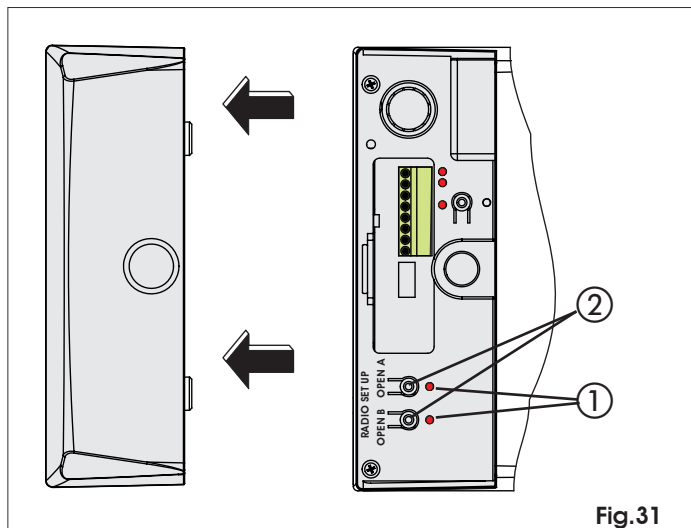

Fig.31
- 2) To respectively memory store total or partial opening, press the OPEN A or OPEN B push-button for one second (Fig. 31 ref. ②)
- 3) The relevant LED (Fig. 31 ref ①), begins to flash for 5 sec.
- 4) To respectively memory store total or partial opening, press the OPEN A or OPEN B push-button for one second (Fig. 31 ref. ②).
- 2) To respectively memory store total or partial opening, press the OPEN A or OPEN B push-button for one second (Fig. 31 ref. ②).